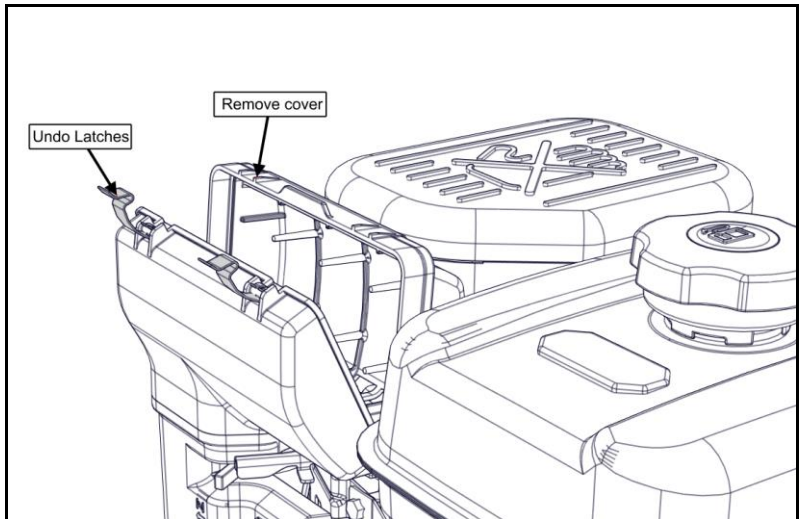

Figure 4 – Engine air filter
- 2) Undo the two latches on the air filter box, remove the filter cover and the filter element (Figure 4).